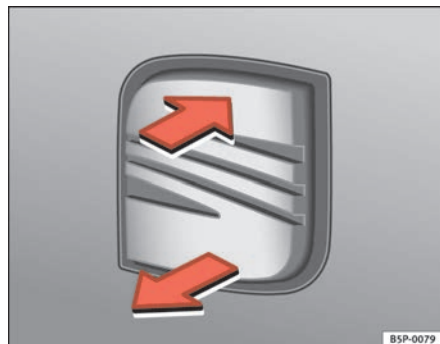

Fig. 65 Boot lid: opening from the outside
- Pull on the release lever and lift the tailgate ⇒ fig. 65. The tailgate will then open.